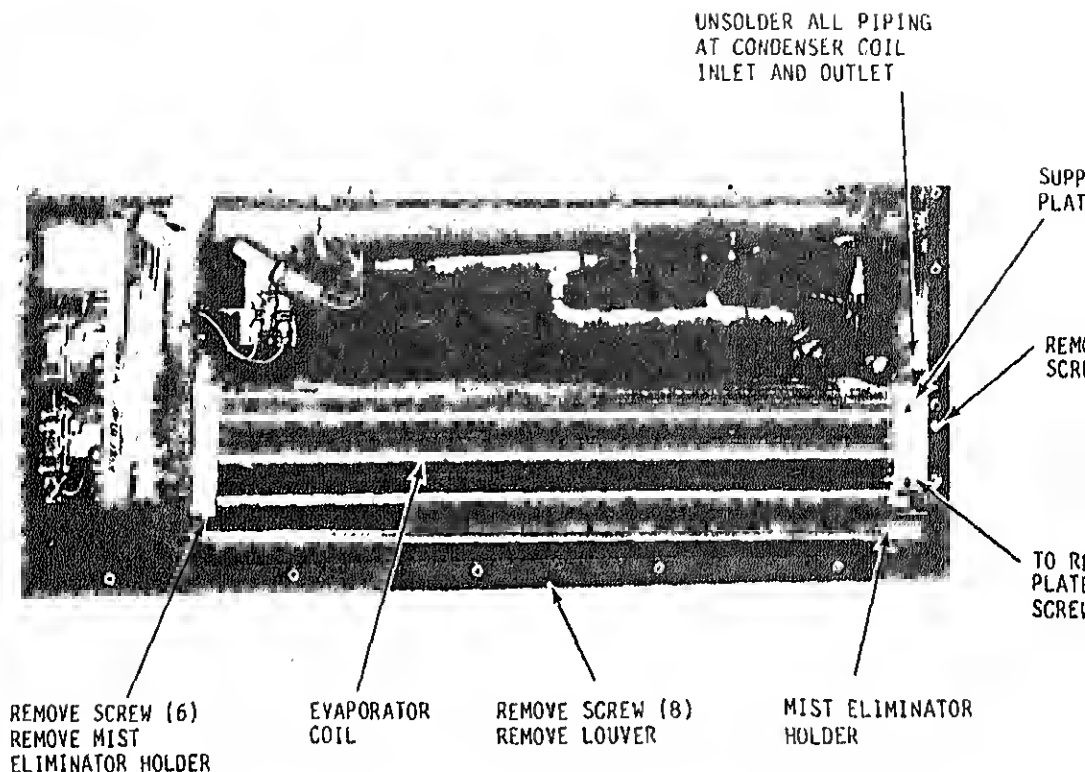

Figure 5-3. Evaporator coil and mist eliminator holder, removal and installation.
(4) Refer to para 4-30 and remove heating elements.
(5) Refer to figure 5-3 and remove support plate that holds coil housing.
(6) Refer to figure 5-3 and disconnect tubing from evaporator coil.
(7) Remove six screws, washers, lock washers that hold evaporator coil and mist eliminator holders to air conditioner. Remove holders and coil.
(1) Install coil and mist eliminator holder in air conditioner and secure to brackets with six screws, washers, and lock washers. The upper four screws, washers and lockwashers attach both the coil and mist eliminator holder; the lower two hold the coil only.
(2) Refer to figure 5-3 and install coil support plate.
(3) Connect tubing to coil. Leak test as described in 5-6.